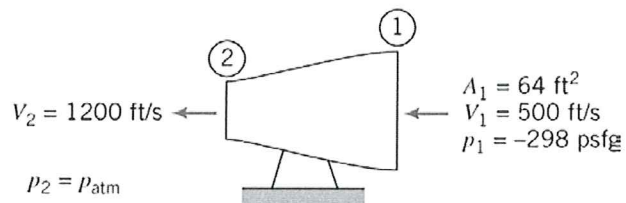

Figure 5
- At rated thrust, a liquid-fuelled rocket motor consumes 80 kg/s of nitric acid as oxidizer and 32 kg/s of aniline as fuel (see figure 5). Flow leaves axially at 180 m/s relative to the nozzle and at 110 kPa. The nozzle exit diameter is $D = 0.6$ m. Calculate the thrust produced by the motor on a test stand at standard sea-level pressure.